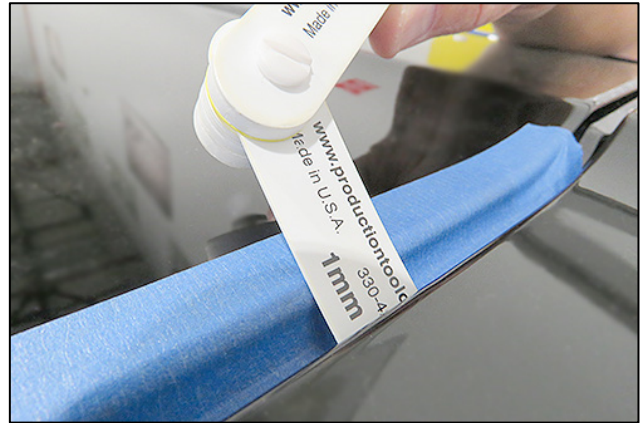
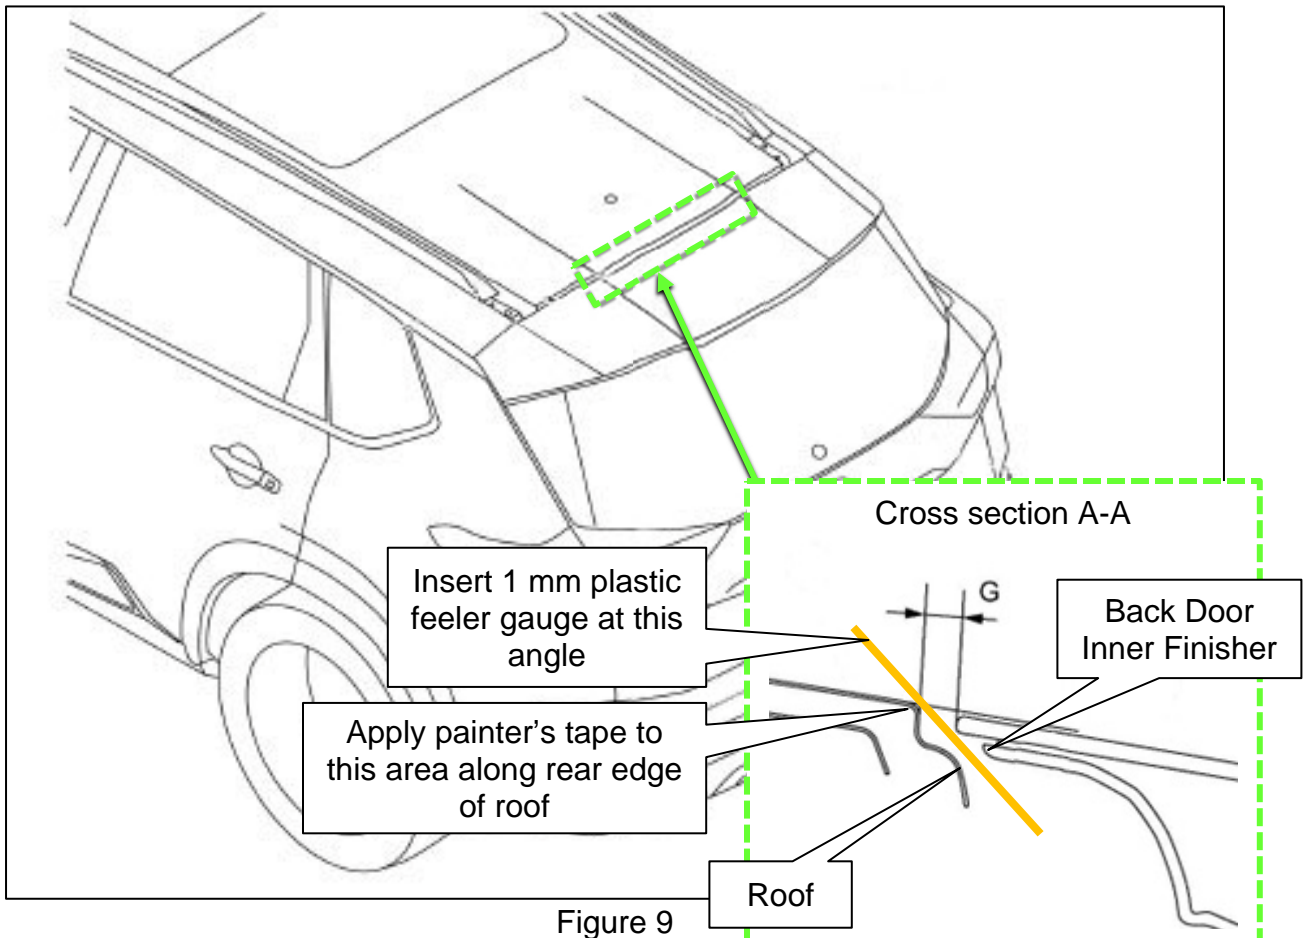

Figure 8
Figure 9
13. Apply painter's tape to the rear edge of the roof where shown in Figure 9, to protect the vehicle's paint.
14. Close the Back Door and measure the gap between the Back Door Inner Finisher and the roof along the entire area shown in Figure 9, by inserting a flexible 1 mm plastic feeler gauge (Figure 8) or similar tool.
- Does the plastic feeler gauge slide along the entire length of the area shown in Figure 9?
- Does the plastic feeler gauge slide along the entire length of the area shown in Figure 9 on page 8?